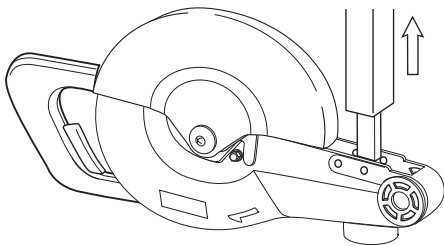
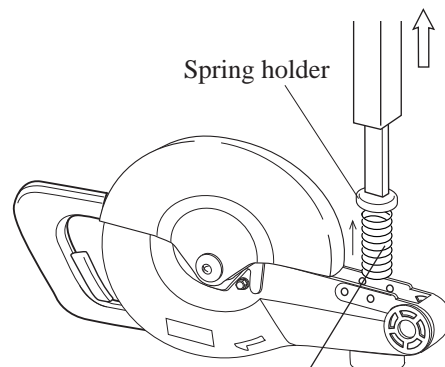

Fig. 6.
Fig. 7.
- 6) Slowly reduce the pressure on the block. And then, spring holder and compression spring 28 can be removed from motor unit. See Fig. 6 and Fig. 7.